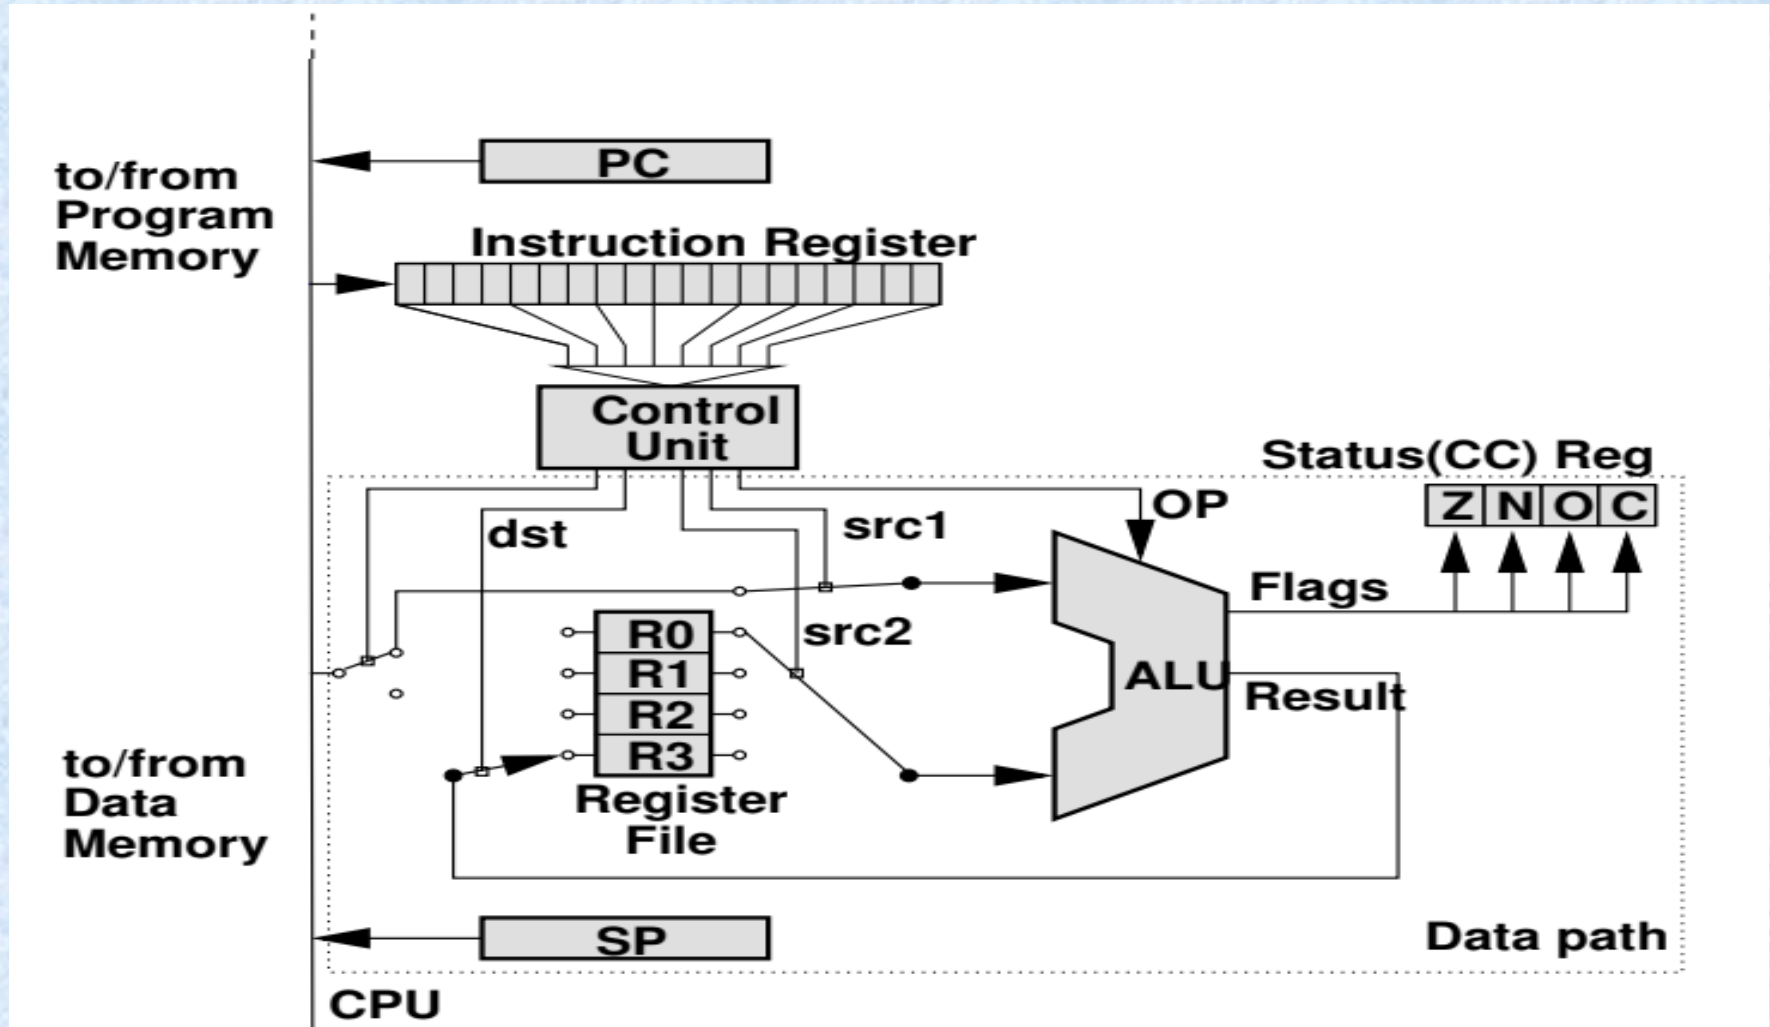

Figure 2.1: Basic CPU architecture.
- A basic CPU architecture is depicted in Figure 2.1. It consists of the data path, which executes instructions, and of the control unit, which basically tells the data path what to do.